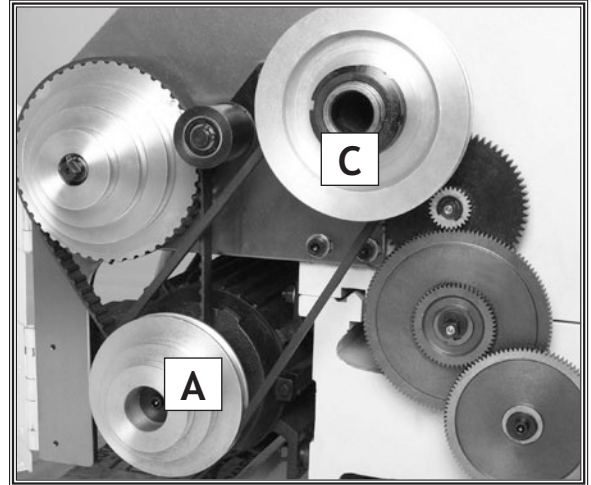

Figure 41. High-range belt position (A-C).
- If the high range belt (Figure 41) needs to be replaced, carefully roll the belt off of pulleys A and C and reinstall the new one.